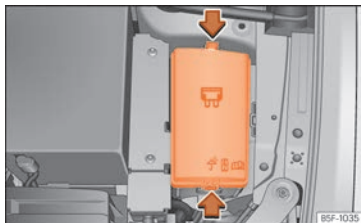

Fig. 105 In the engine compartment: lid of the fuse box.
- Press the locking tabs to release the fuse box cover »» **Fig. 105.**